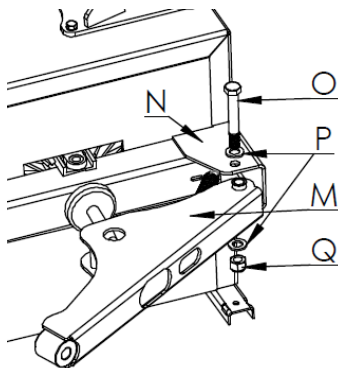

Fig. 8
- Place the arm (M, fig.8) in the bracket (N, fig.8), mounted on the machine, fix the arm (M, fig.8) using bolt (O, fig.8), washer (P, fig.8) and nut (Q, fig.8).